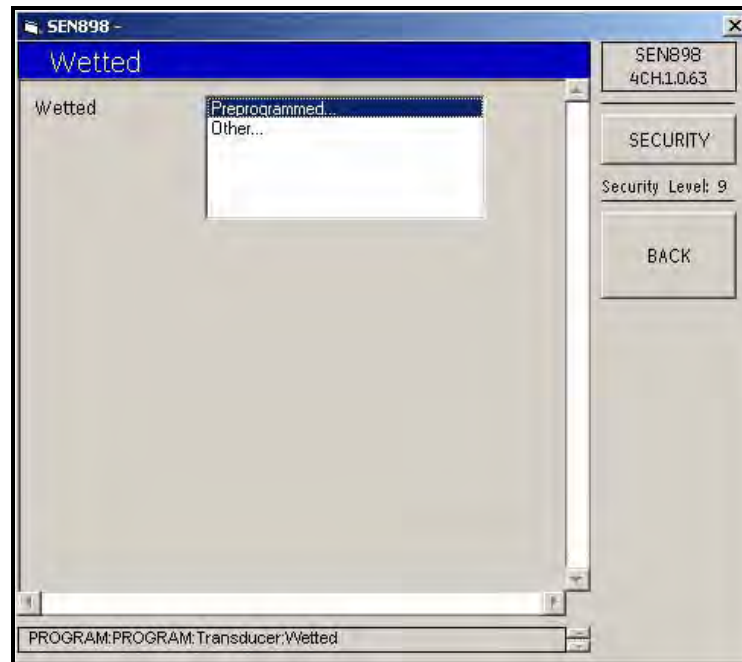

Figure 58: Wetted Transducer Options
12. If Other was selected under Wetted (see Figure 58 on page 83), the following screen appears.